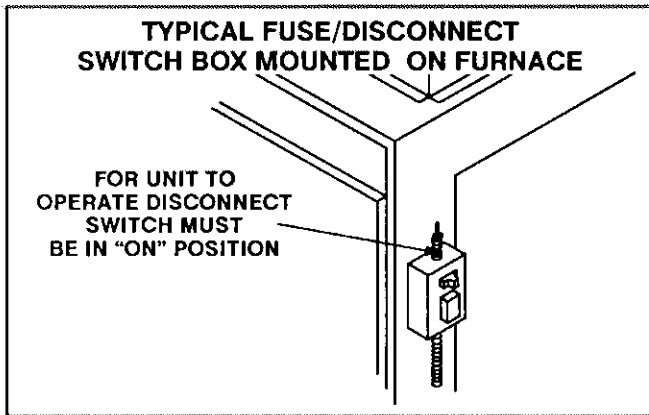

FIGURE 4
- 3- Turn off all electrical power to appliance. See figure 4.
- 7- Wait five (5) minutes to clear out any gas. If you then smell gas, STOP! Immediately call your gas supplier from a neighbor's phone. Follow the gas supplier's instructions. If you do not smell gas go to next step.
- 1- Turn off power to furnace at unit disconnect switch. See figure 4.